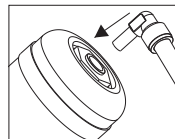

Fig. 3
- 3) Unscrew inlet and outlet connectors from old filter cartridge (fig.3)